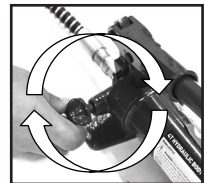

Fig.7
3. Close the Release Valve (9) clockwise until tight (DO NOT over-tighten) (Fig 7).
4. If the Ram (4) does not feel like it is operating correctly, repeat the above process until all air has been purged from the system. If the problem continues contact Kinchrome Customer Service.